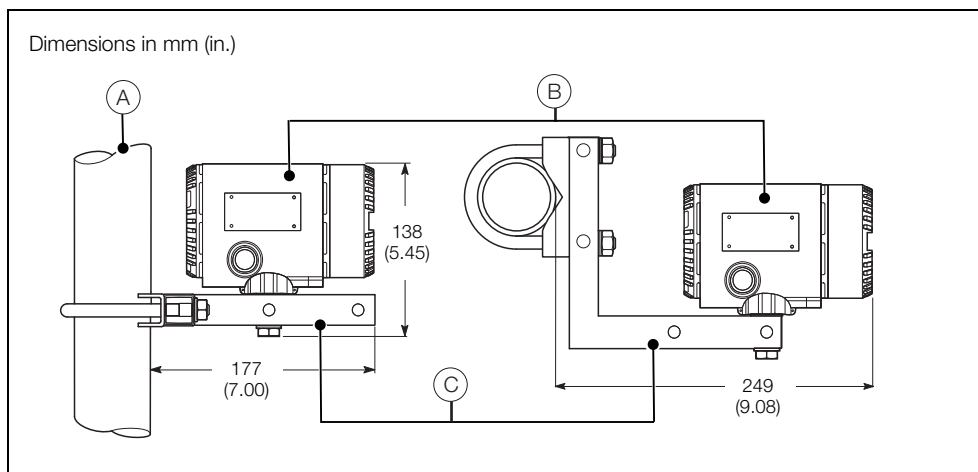

Fig. 3.5 Pipe Installation
Referring to Fig. 3.5:
1. Select a suitable pipe (A) (maximum 50 mm [2 in.]) as close as possible to the sensor.
2. Bolt the transmitter (B) to the pipe-mounting bracket (C) securely in the required position.
Note. The pipe-mounting bracket (C) supports variable installation positions. Two examples of the different options are shown in Fig. 3.5. The transmitter mounting bolt enables adjustable positioning (0° to 360°) of the transmitter housing.
3. Attach the pipe-mounting bracket (C) to the pipe securely using the U-bolt, nuts and washers (included).